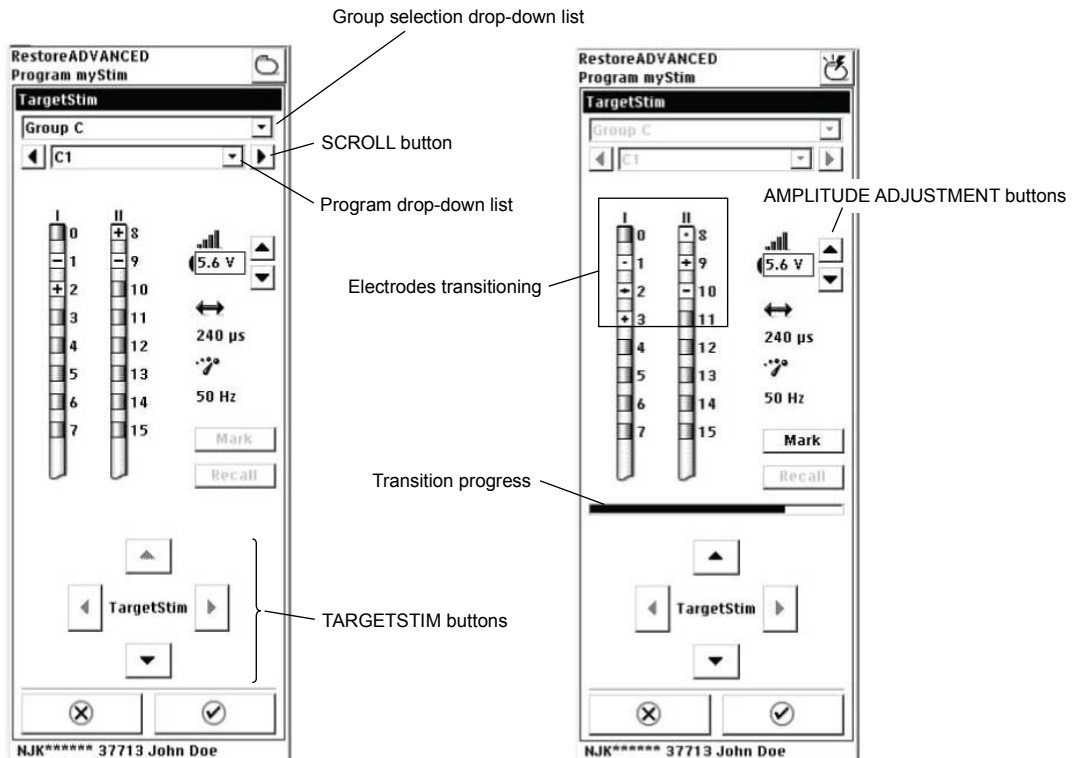

Figure 34. Using TargetStim.
3. Select a group from the group selection drop-down list (Figure 34).
5. From the second drop-down list on the screen, select a program (Figure 34). The SCROLL RIGHT/ SCROLL LEFT buttons provide an alternative method to view and select a program.
7. Set or modify the amplitude as needed. Use the scroll wheel or the AMPLITUDE ADJUSTMENT buttons (Figure 34) while asking the patient to provide responses to the stimulation.
8. Use the TARGETSTIM buttons (Figure 34) to transition the electrodes while asking the patient to provide responses to the stimulation.